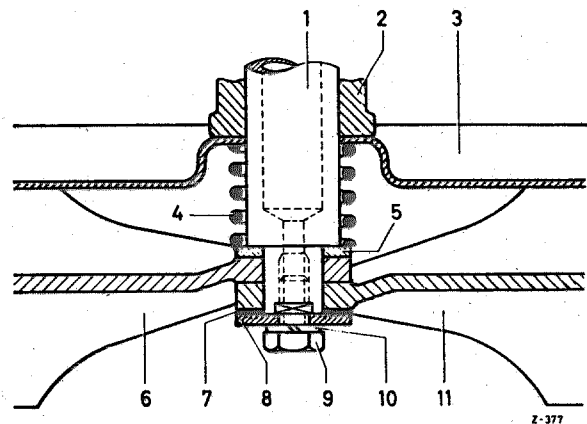

Fig. 42—9/2
4. Unscrew the bolt (4) of the automatic adjustment at the back of the brake anchor plate from both brake shoes and remove, together with lock washer (2).
5. Unscrew the hexagon screw (9) for the brake shoe attachment from the anchor pin of the supporting tube (1) and remove, together with lock washer (10), washer (8), and brass washer (7) (Fig. 42—9/2).